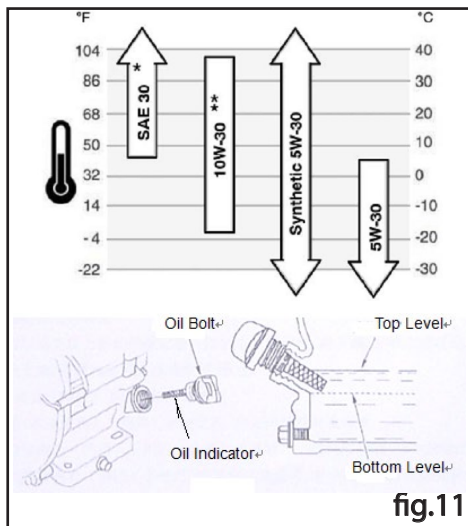

fig.11
1. Checking/Adding Oil (Figure 11)